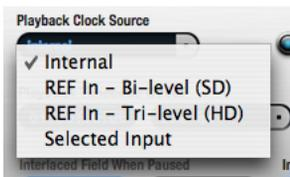

Figure 6-28: Playback Clock Source menu.
Choose *Internal* (Figure 6-28) to make the V4HD resolve to its own internal clock. This setting is best when you do not need to resolve the V4HD to house sync (blackburst).
Choose *REF in — Bi-level (SD)* (Figure 6-28) when you wish to resolve the V4HD to an SD clock source connected to its VIDEO REF input on the rear panel. Use this setting to resolve the V4HD to house sync (blackburst).
Choose *REF in — Tri-level (HD)* (Figure 6-28) when you wish to resolve the V4HD to an HD clock source connected to its VIDEO REF input on the rear panel.
Choose *Selected Input* (Figure 6-28) when you wish to resolve the V4HD to the video signal being received from the currently chosen input in the *Video Source* menu (Figure 6-3 and Figure 6-5), even though the V4HD is currently in *Playback* mode and you are not capturing or converting the source video signal.
- the Playback Clock Source (Figure 6-27 and Figure 6-28)